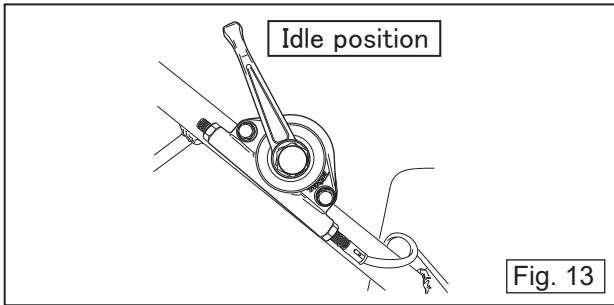

Fig. 13
- 3 Move the throttle lever to the idle position. (Fig. 13)